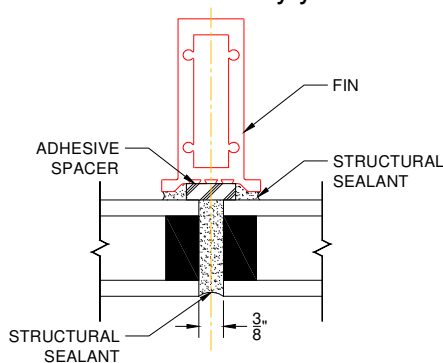

Figure 9:
- c. maintain a 3/8" gap between glass for sealant (Figure 9).
- d. Apply structural sealant between the glass and fin (Figure 9).